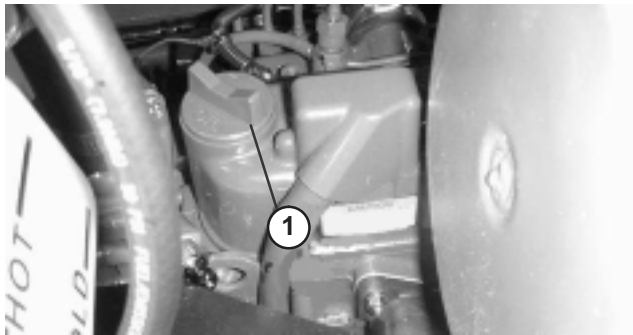

Figure 17
3. If oil is below FULL mark, remove fill cap (Fig. 17) and add SAE 10W-30 CD, CE, CF, CF-4 or CG-4 classification oil until level reaches FULL mark on dipstick. DO NOT OVERFILL.